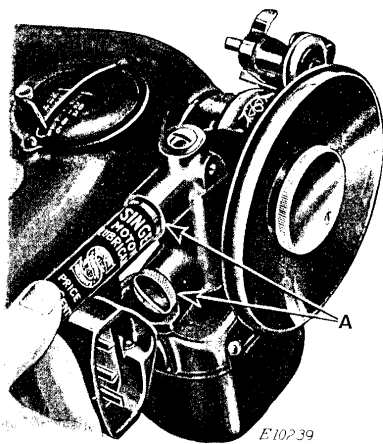

FIG. 15. LUBRICATING MOTOR
When the armature was removed, as instructed on page 17, the spring-pressured grease wick for each of the two bearings (Y) projected into the shaft bearings. Therefore, before replacing the armature and shaft, remove the two grease wicks in order that armature shaft may be inserted in its bearings without damage to the wicks. To do this, remove cap screws (A, Fig. 15) and, using a small screw driver, carefully remove the grease wick spring retainer, together with grease wick spring and grease wick from each grease cup.
wick spring retainers in place in the grease cups, having the tab, at the outer end of each retainer, over the outer end of the grease wick spring. Fill the grease cups and replace cap screws (A, Fig. 15).
Remove the two thumb screws from the two grease cups (A, Fig. 15) and clean out the interiors of the cups. Insert the tip of motor lubricant tube into grease cups, as shown in Fig. 15, and squeeze about a quarter of the tube of lubricant into each cup, then replace and tighten the thumb screws.